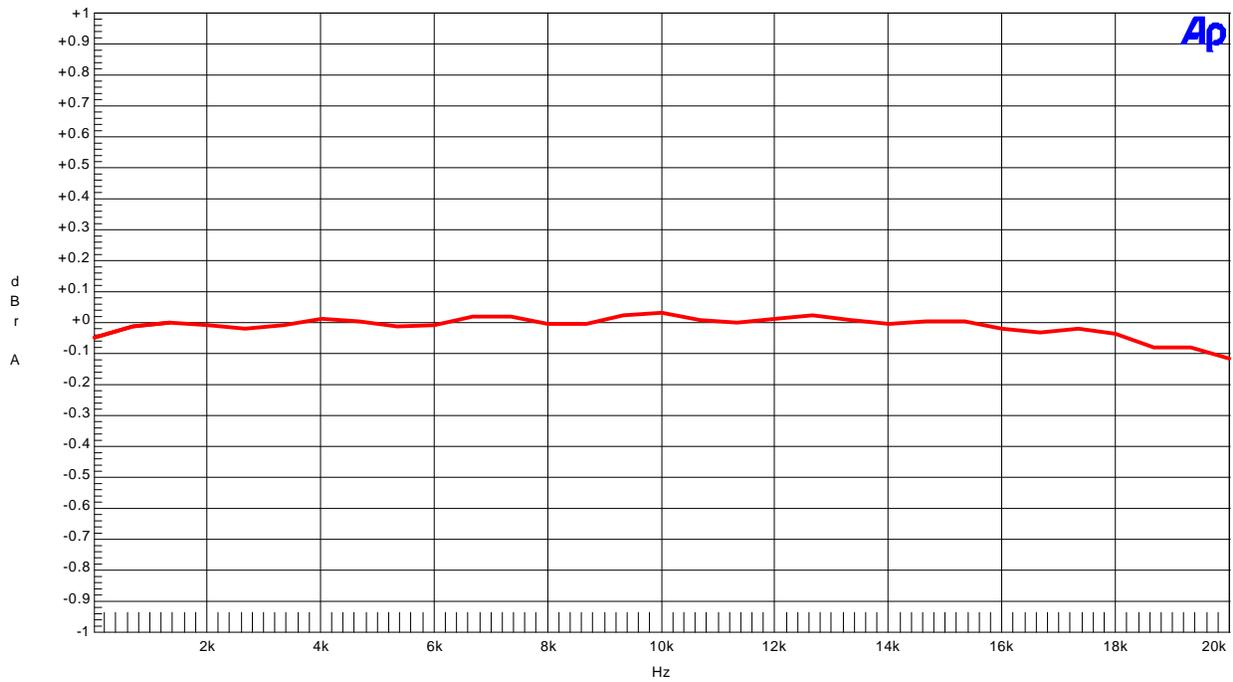

Figure13. Frequency Response (Input level=0dBFS)
- Figure13. Frequency Response (Input level=0dBFS)